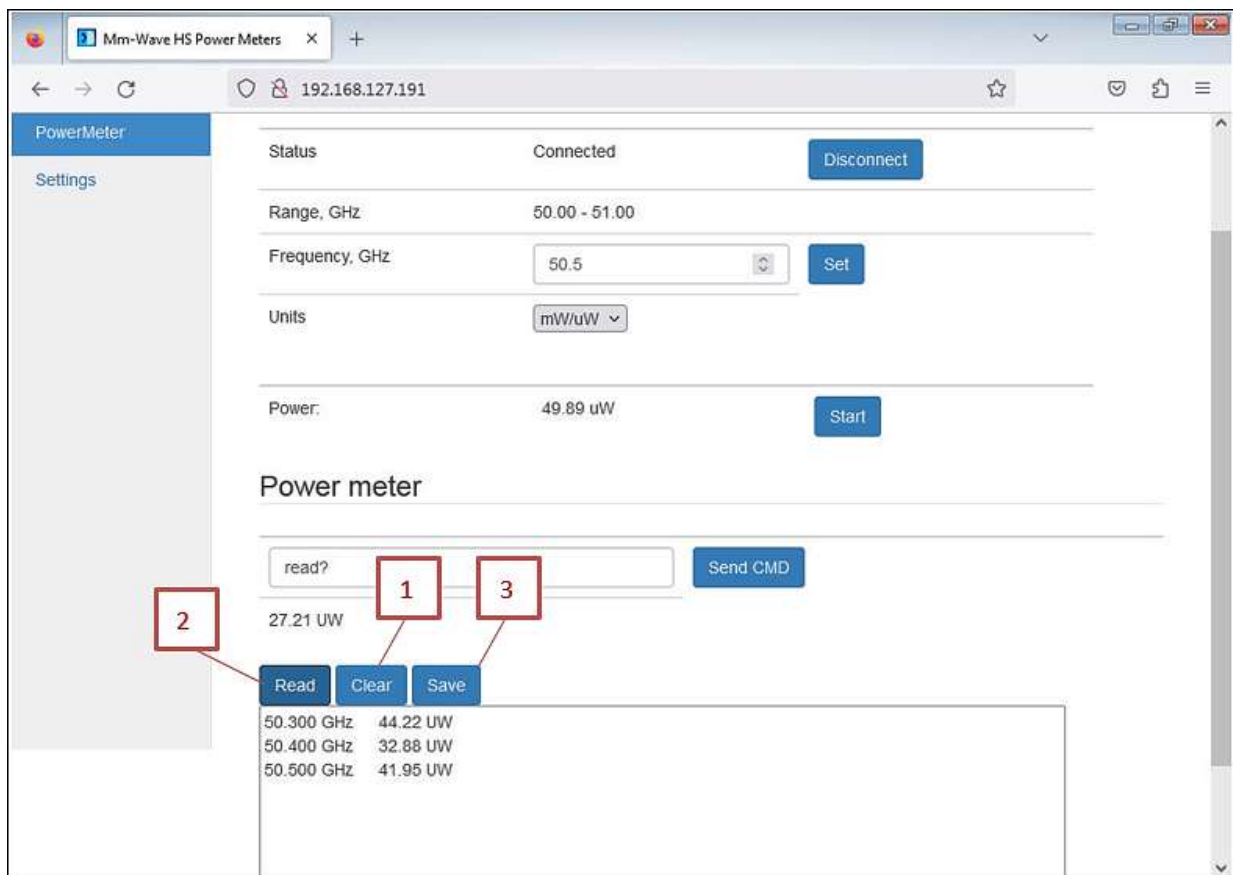
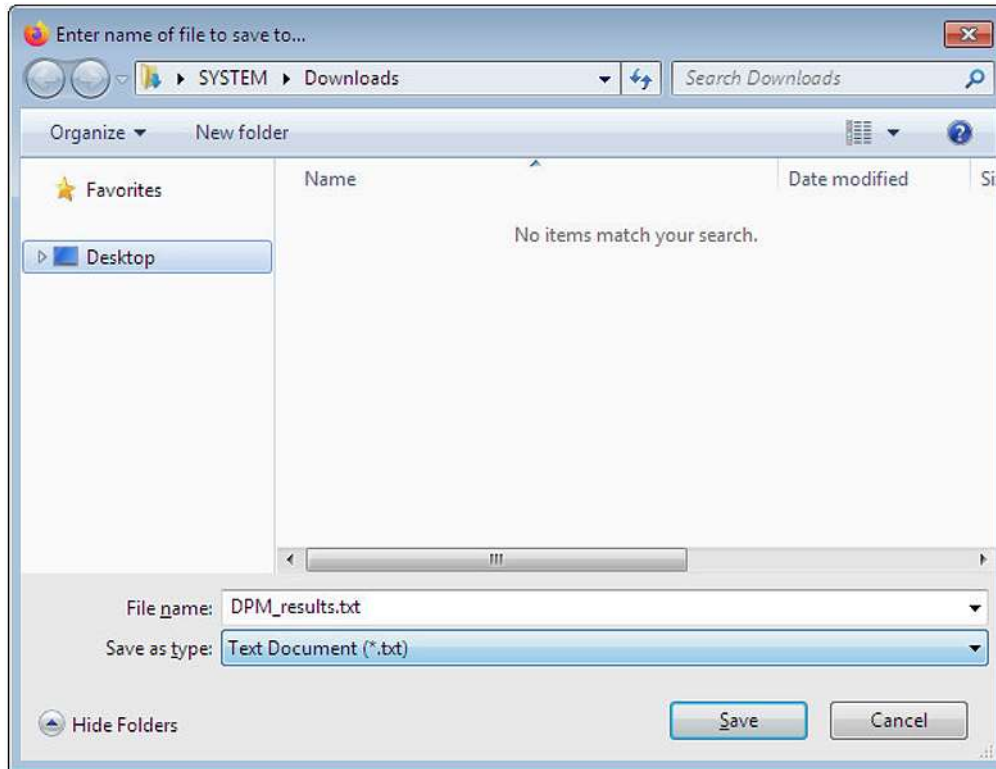

Fig.7. Read/Clear/Save buttons
Fig.8. File Save dialog box
- **Clear:** This option clears the contents of the measurement result textarea. Note that this textarea may not be empty at first start; this is not an error and is associated with testing and configuring the device. For correct operation, click the 'Clear' button [marker #1, Fig. 7].
- **Read:** To display the set frequency and measured power value in the textarea, click 'Read' [marker #2, Fig. 7]. To display multiple measurements, simply press the 'Read' button successively.
- **Save:** Values displayed in the measurement result textarea can be saved to a file using the 'Save' button [marker #3, Fig. 7]. Refer to the dialog box shown in Fig. 8 for further details.